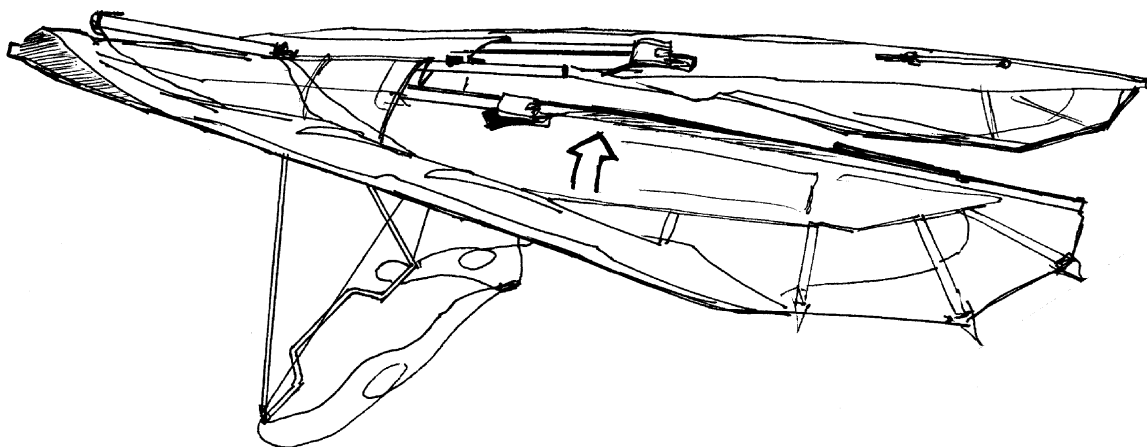
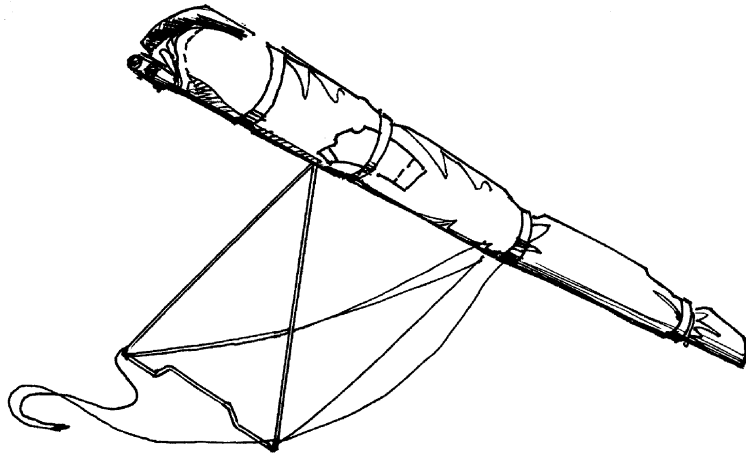

Fig.44
Fig.45
4.1.7. Fold the wings. Spread the sail so that both the top and bottom surfaces of the sail are equally taut, roll the sail and place it along the leading edge (Fig.44). Place the bags with the battens between the leading edges of the sail at the glider nose. Fix the sail with the tighten tapes. Put the nose cone under the tighten tape nearest to the nose (Fig.45).